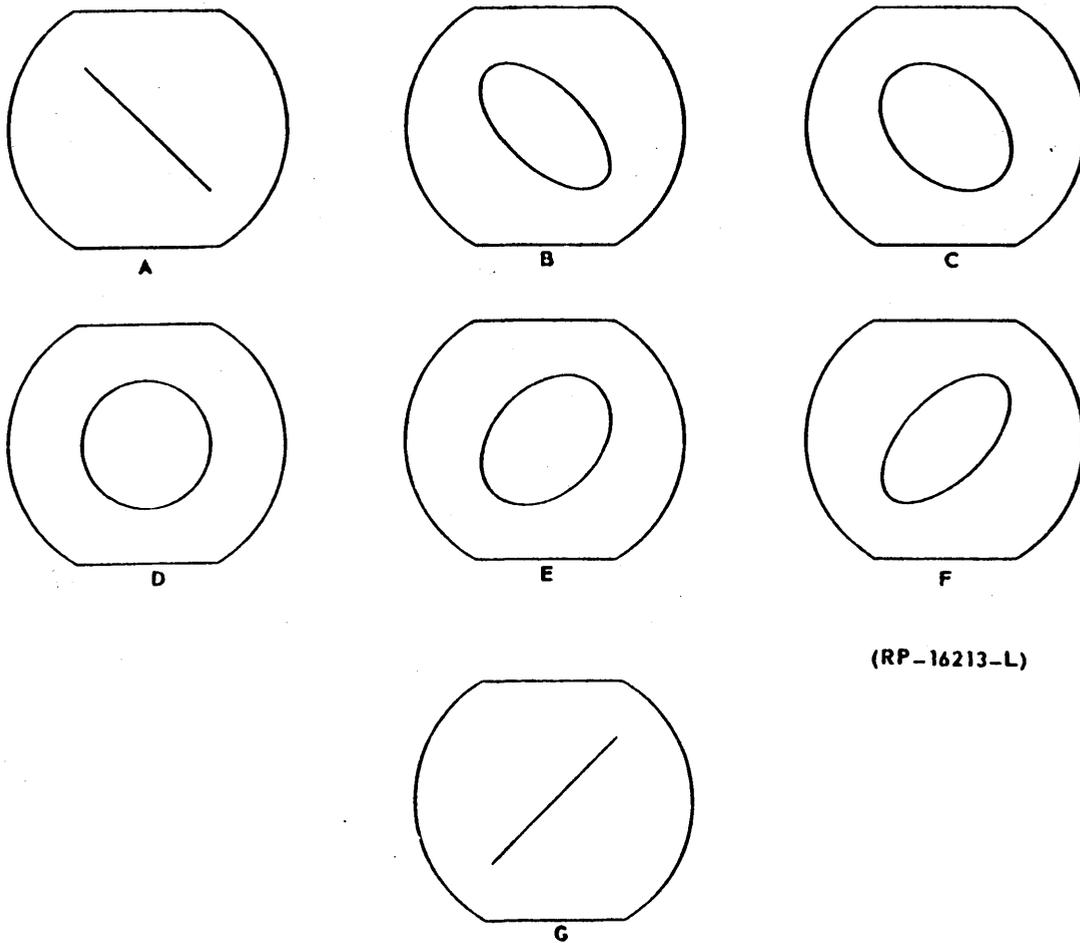

FIG. 2 OSCILLOSCOPE PATTERNS - SUCCESSIVE PHASES OF 1 TO 1 FREQUENCY RATIO
14.24 Using a KS-19355 L-3 adjustor, adjust the tuning slug in the Touch-Tone Generator LA transformer until a stationary 1 to 1 frequency pattern is obtained. (Refer to Figure 2 for appearance of this type of pattern.) The Touch-Tone high frequency oscillator will now have been adjusted for a frequency of oscillation of 1336 CPS. If this requirement can not be obtained, check for proper installation of trimmer capacitor A04 per SD-25221-01 Note 105.